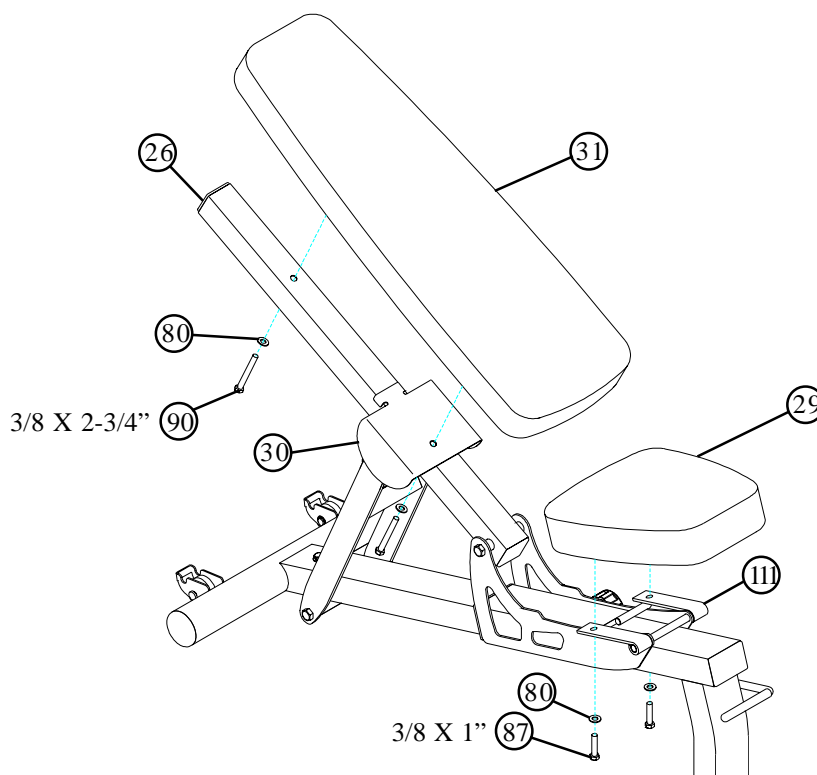

FIGURE 31
- **SECURELY** assemble the BENCH SEAT PAD (29) to the HINGE TABS (111) using two 3/8 X 1" BOLTS (87) and two 3/8" WASHERS (80). See FIGURE 31.
- **SECURELY** assemble the BENCH BACK PAD (31) to the BENCH BRACKET (30) and the BACK PAD SUPPORT (26) using two 3/8 X 2-3/4" BOLTS (90) and two 3/8" WASHERS (80). See FIGURE 31.